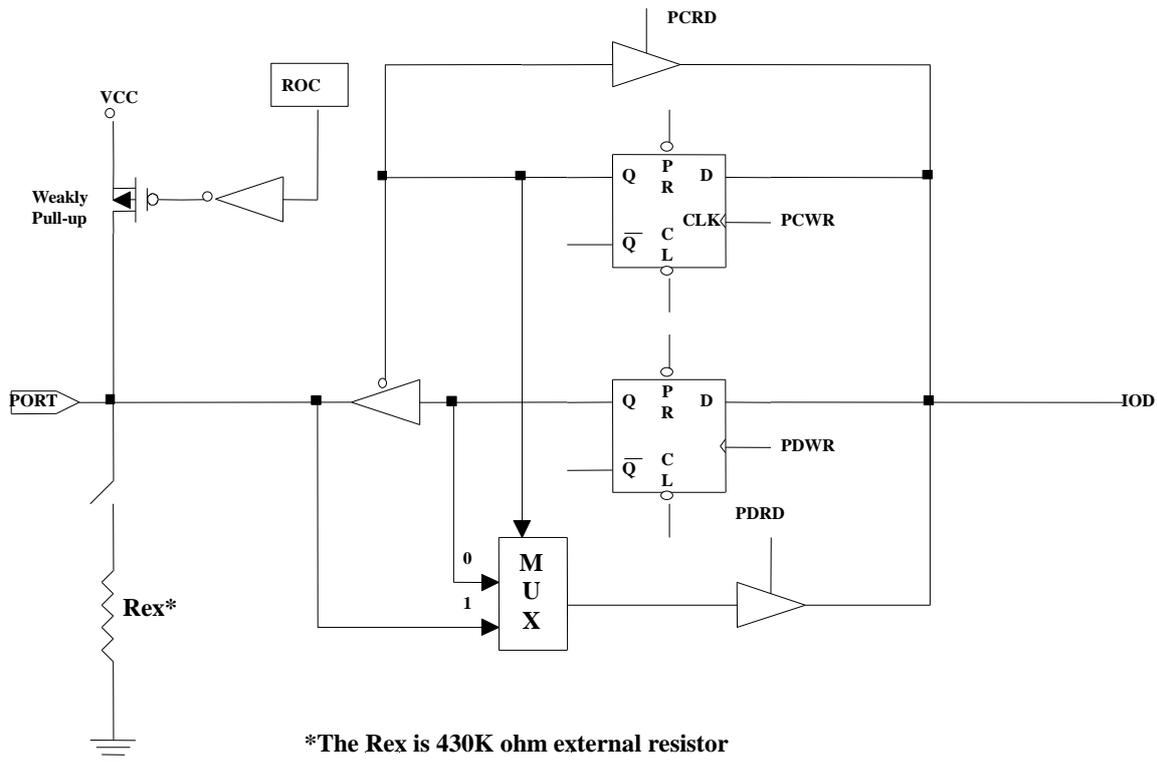

Figure 8 The Circuit of I/O Port with R-option (P50,P51)
Setting the ROC to "1" will enable the status of R-option pins (P50~P51) that are read by the controller. Clearing the ROC will disable the R-option function. If the R-option function is selected, user must connect the P51 pin or/and P50 pin to VSS with a 430KΩ external resistor (Rex). If the Rex is connected / disconnected, the status of P50 (P51) is read as "0"/"1". Refer to Fig. 8.
The I/O registers and I/O control registers are both readable and writable. The I/O interface circuits for Port 5 and Port 6 are shown in the following Figures 6, 7(a), 7(b), 7(C) and Figure 8.